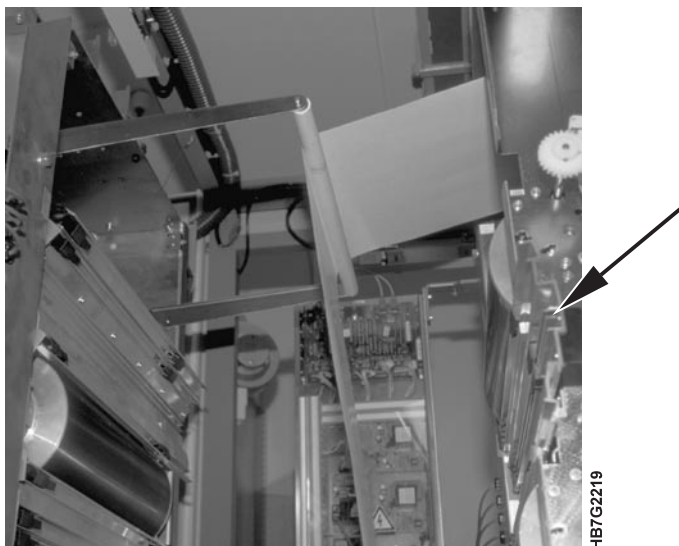

Figure 339. TED Corona Assemblies
6. Locate the transfer erase duplex (TED) corona assembly, as shown in Figure 339 on page 343. Each tower has four TED corona assemblies.